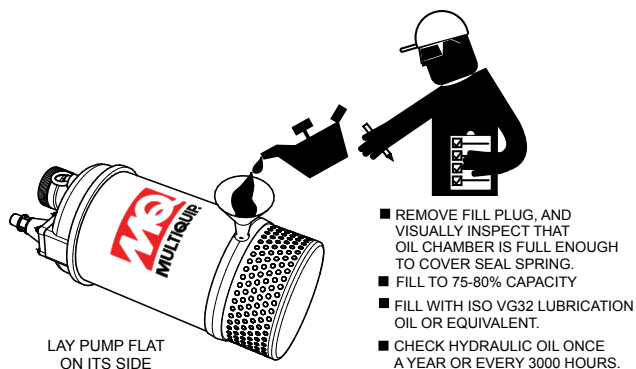

Figure 16. Adding Lubrication Oil
1. Lay the pump (Figure 16) on its side with the oil plug facing upwards.
Use a funnel (Figure 16) and fill oil chamber with ISO VG32 lubrication oil or equivalent. Oil chamber capacity is 40 oz. (1,200 cc) for ST41230/ST41460 and 47 oz (1,400 cc) ST61230/ST61460. Fill to 75-80% capacity to allow for expansion. Replace lubrication oil once a year or 3,000 hours.